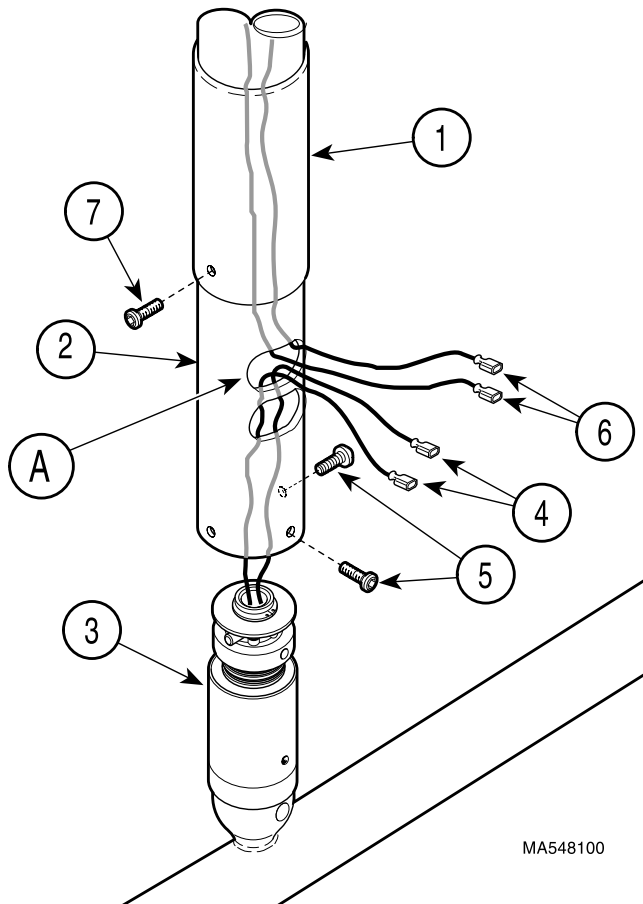

Figure 8. Cross Tube Assembly Installation
- (1) Slide ball pivot sleeve (1, Figure 8) onto down tube (2), making sure screw hole in sleeve is on the bottom.
- (2) With ball pivot sleeve (1) positioned as high as possible on down tube (2), pull blue and brown wires (6) through top window (A) of down tube.